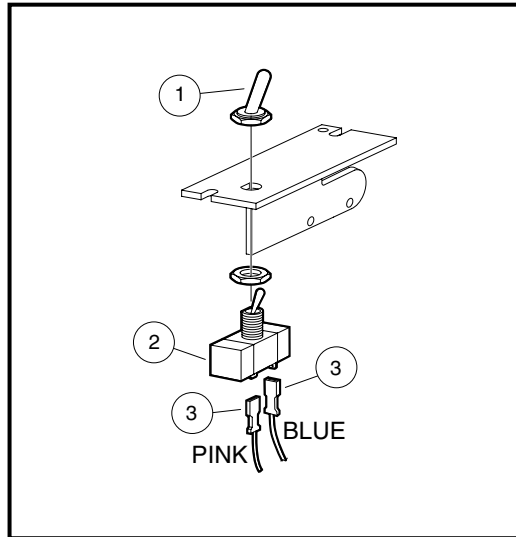

Figure 12-6 Tow/Run Switch
3. Remove Tow/Run switch boot/hex nut (1) (**Figure 12-6, Page 12-7**).
4. Remove Tow/Run switch (2) from bracket.
5. Disconnect the two wires (3) and remove switch.
1. Installation is reverse of removal. Make sure flat on switch is aligned with the flat on bracket. Tighten Tow/Run switch boot/hex nut (1) to 16 in-lb (1.8 N·m) (**Figure 12-6, Page 12-7**).